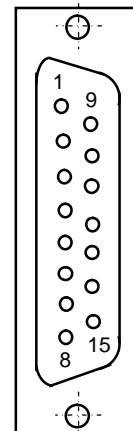

Figure 5.8
5.4.3.3 The DAC device channels are wired to Connector «5» on the connector card of the CNC unit. The connector types are given in Table 3.2. The arrangement of connector pins is shown in Figure 5.8. The DAC channel signals are presented in Table 5.8. The wave resistance of the connecting cable must be equal to 120 Ohms.